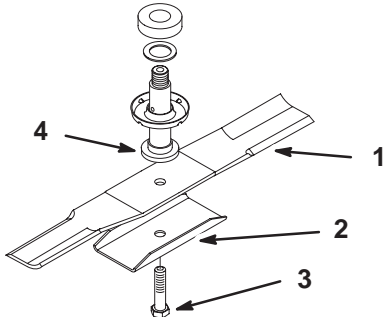

Figure 28
3. Remove the bolt, blade stiffener and blade (Fig. 28). A block of wood may be wedged between the blade and the mower to lock the blade when you are removing the bolt.